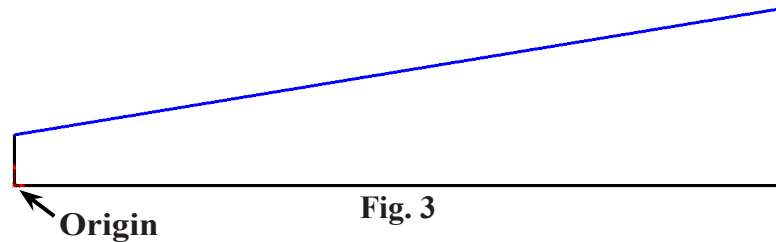

Fig. 3
Step 3. Starting at the Origin  sketch the lines in **Fig. 3**. Use the inferencing line, the dotted line that appears when you sketch the lines to keep the side lines vertical and the bottom line horizontal. Do not add any extra lines. If you make a mistake, use Undo, **Ctrl-Z**.